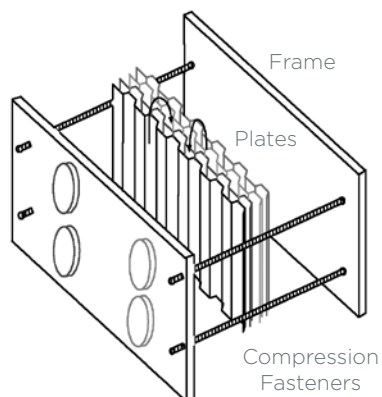

Figure 11. Components of a Plate and Frame Heat Exchanger
**Plate and frame heat exchanger.** In plate and frame heat exchangers, the two heat exchange fluids are separated by plates. The plates are corrugated, or ridged, as shown in Figure 11, to increase the surface area available for heat transfer. Plate and frame heat exchangers are often used in low-viscosity applications, where the risk of clogging is less severe. The plate ends are typically sealed by covers with gaskets covers that can be removed to allow disassembly and cleaning. This heat exchanger type is used when temperatures and pressures are moderately low, typically below 300°F and 370 psi. Plate and frame heat exchangers also have a common design variation that has the plates welded or brazed together. This allows higher temperature service but eliminates the possibility of mechanical cleaning.